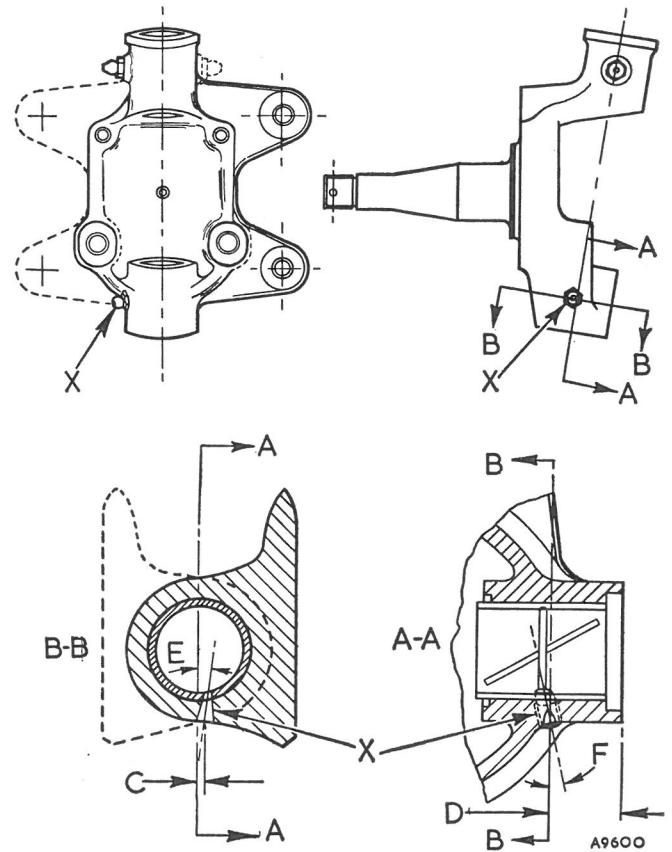

Fig. K.4
- (1) Remove the swivel axles as described previously.
- (2) Using a No. 3 (.213 in. [.541 mm.]) drill, carefully drill each swivel axle in the position shown at 'X' in Fig. K.4.